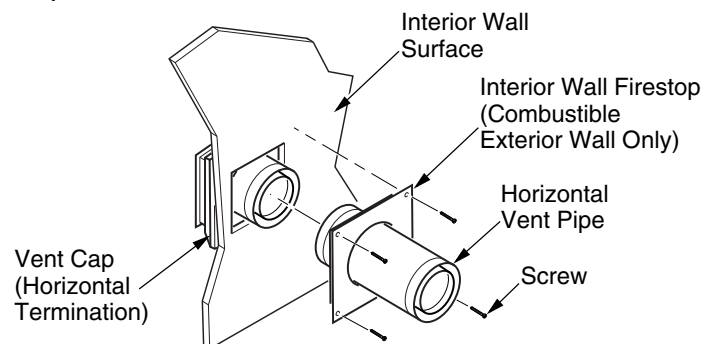

Figure 27 - Connecting Vent Cap with Horizontal Vent Pipe
- Combustible Exterior Wall Only:** Slide the wall firestop against the interior wall surface and attach with screws provided (see Figure 27).
- Combustible Exterior Wall Only:** Slide the interior wall firestop over the vent pipe before connecting the horizontal run to the vent cap (see Figure 27).